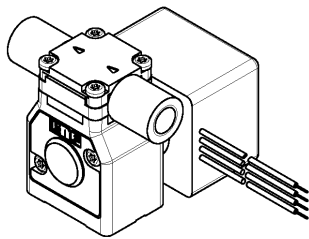

Fig. 7: Optimum installation position for one-headed pumps: horizontal
- ➔ Generally speaking, the pump can be installed in any position. For maximum accuracy and rapid venting of one-headed pumps, please install as shown in the illustration (Fig. 7).